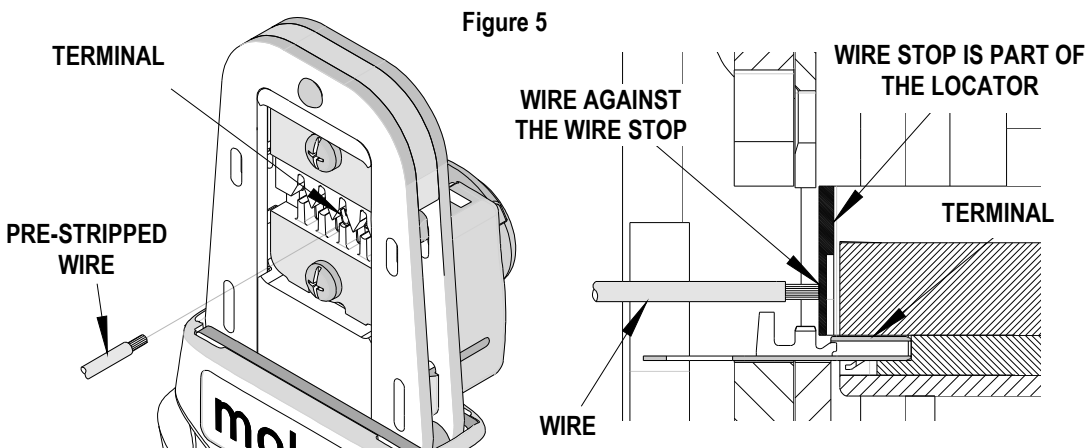

Figure 5
6. Insert the properly stripped wire above the terminal and against the wire stop. See Figure 5.